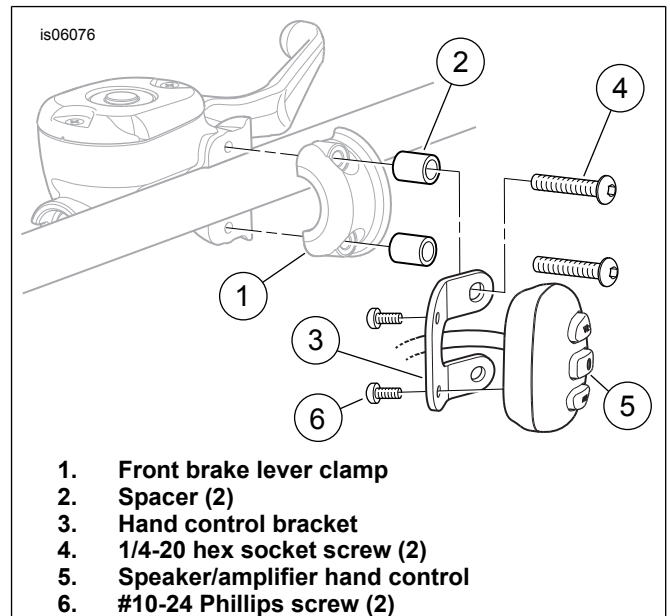

Figure 2. Hand Control and Bracket Installation
1. See Figure 2. Remove the front brake lever clamp screws from the vehicle. Remove and retain the clamp (1). The screws can be discarded.
2. Get the hand control bracket (3), two spacers (2), two screws (6) and two screws (4) from the kit.
3. Route the hand control (5) wire harness through the center of the hand control bracket (3) as shown.
5. Install the hand control (5, part of the wire harness assembly) to the bracket with the #10-24 screws (6). Tighten securely.